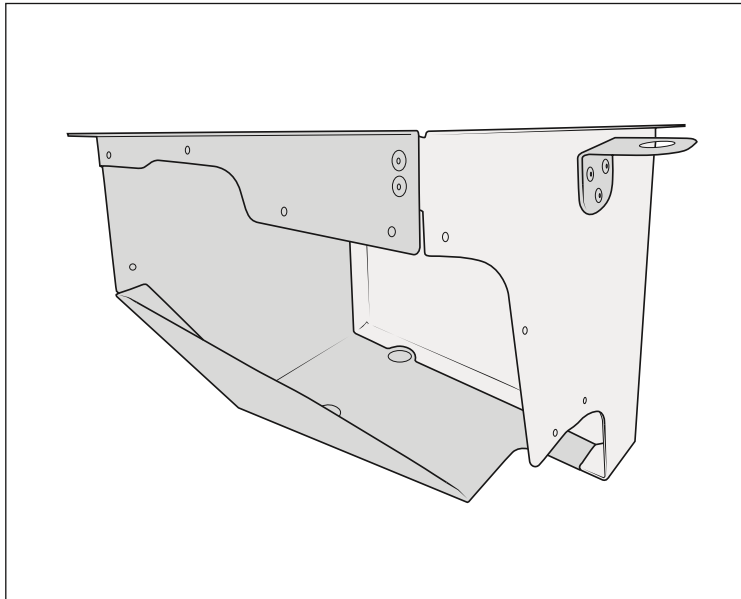

Figure 13
1. Assemble the lower airbox using the supplied $5/32"$ x $1/4"$ rivets. Sensor Safe RTV can be used between the panels (fig. 13).
2. Install the forward mounting tab onto the airbox using the supplied rivets (fig. 13).